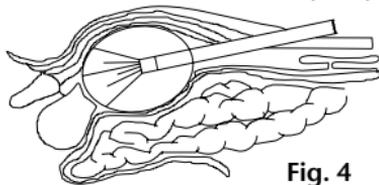

Fig. 4
- After having positioned the instrument, connect the insufflation ball pump with its transparent connector to the open insufflation valve of the trocar sleeve. Then remove the obturator and replace it by an endoscope, unless already done (see point 2). Now the balloon is carefully insufflated through the upward-pointing insufflation valve by means of the insufflation ball pump. To insufflate the (bilateral) PAJUNK® distension balloon system, actuate the ball pump max. 15 times (extra large: 25 times), taking into account the anatomical conditions; monitor the process continuously via an endoscope. Insufflation of the balloon results in a progressing dissection, which is monitored via the endoscope (see fig. 4).